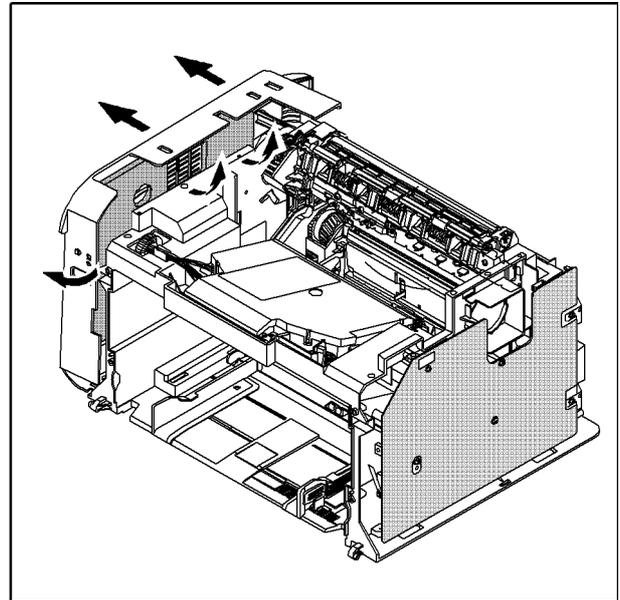

Figure 2
3. Gently flex the right cover in the direction of the arrows, then remove the right cover, Figure 2.